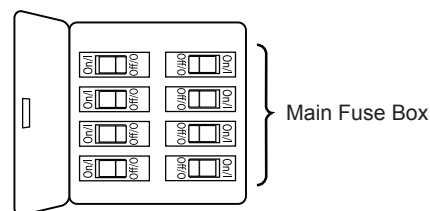

Figure 1
- ☐ 1. Remove and discard the five rubber motor stops from the motor assembly by removing the screws. (Figure 1)
To avoid possible fire or shock, be sure electricity is turned off at the main fuse box before hanging. (Figure 1)